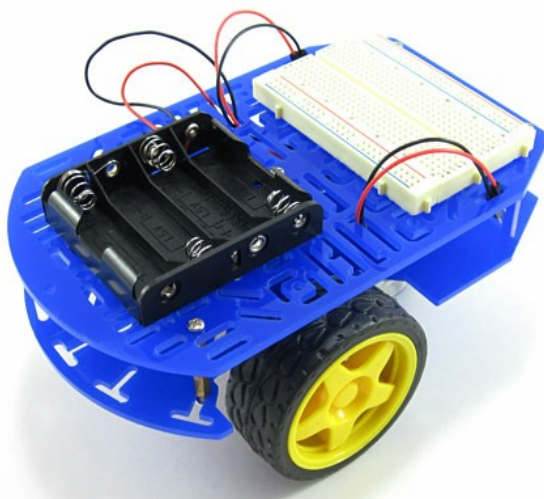

Figure 5. A completed BlueBot chassis with breadboard and battery pack on top.
- c. We also recommend using double-sided foam tape to attach the battery holder to the top of the chassis, as shown in Figure 5. The printed directions recommend putting the battery holder in-between the two chassis plates, but this makes it harder to change the batteries.